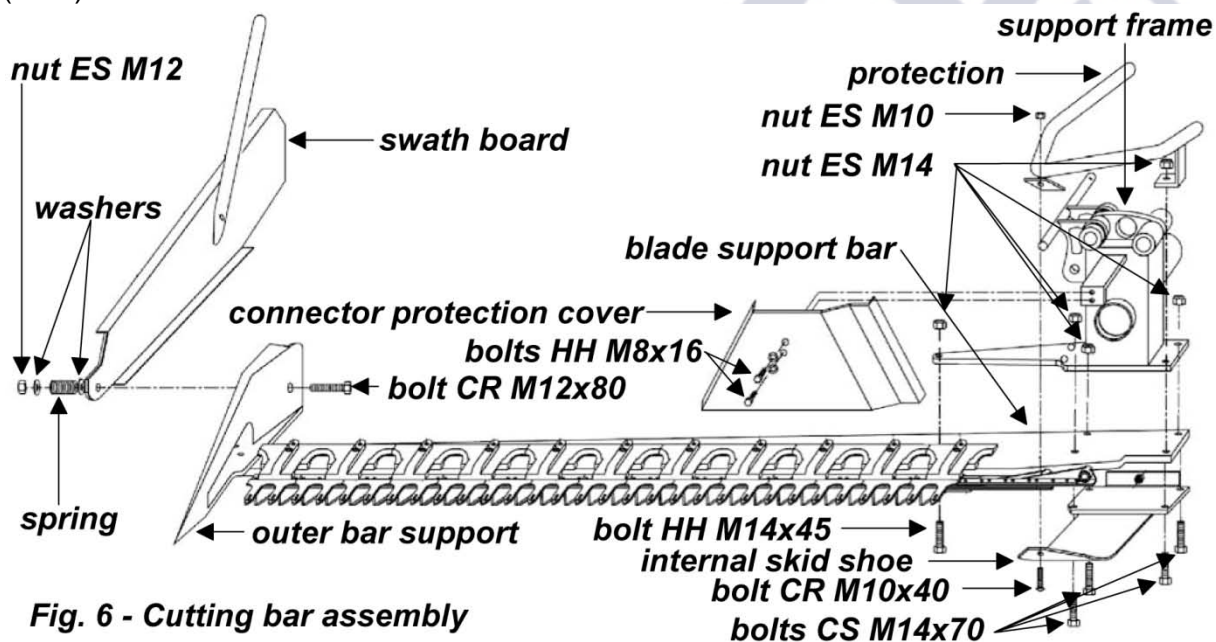

Fig. 6 - Cutting bar assembly
To install the blade and shoe (see fig. 6):
4. Remove the conic bolts and jam nuts (M12) from the blade section and teeth bar (**see fig. 6**).
To install the connector protection cover (see fig. 6):
To install the swath board (see fig. 6):